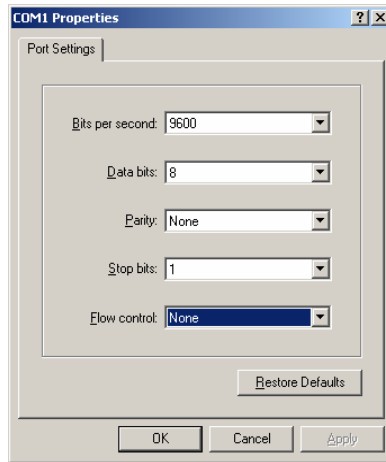

Figure 9. Port Settings
Step 4. Make sure the Switch serial port parameters have been set as per the factory default settings (Figure 9). Click *OK* to configure the Switch.